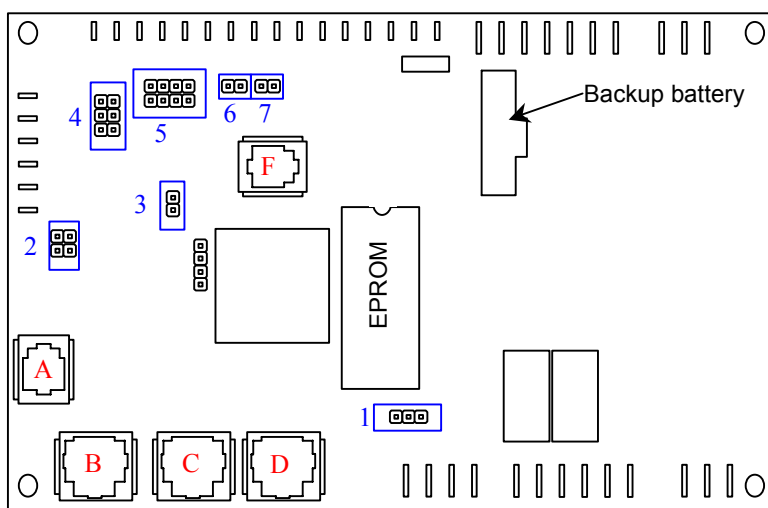
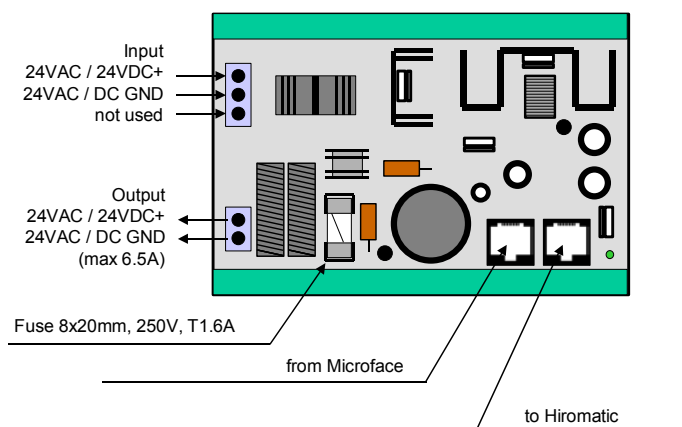

Figure 1 – Microface E 24V AC with connectors and jumpers.
Figure 8 – PSM Module
**Un-power the Microface before mounting/dismounting the Eprom. Remove Eprom only with special tool; never use a screwdriver. For correct direction of mounting please refer to Figure 1 in Chapter 2.1 for Microface, and Figure 8 in Chapter 2.6.2 for Hiromatic E. Compare the Mark in the Eprom with the direction in the Drawing.**